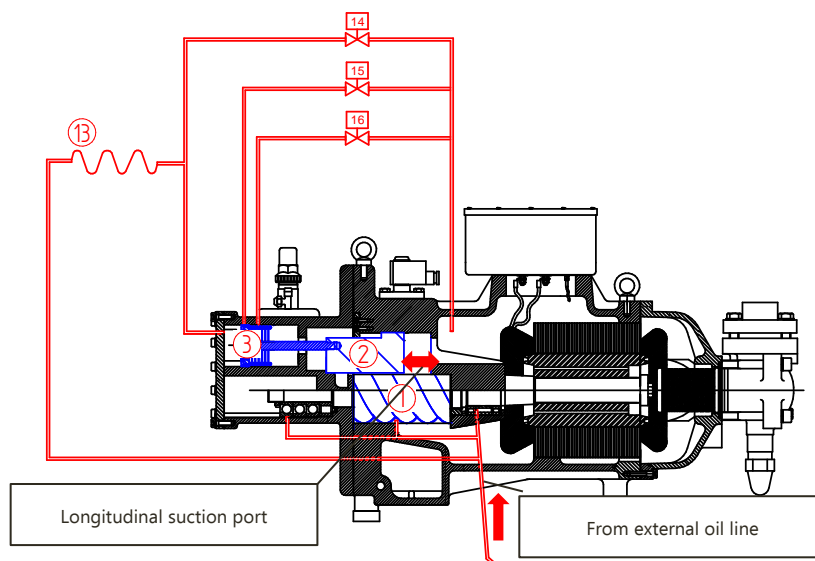

Fig. 12: step capacity control oil circuit
The cylindrical chambers that house the screw rotors are fitted with a longitudinal port, whose connection with the suction side is regulated by the position of the slide valve (17), see Fig. 12.
In the configuration with 4 steps the slide valve automatically returns to the position of minimum capacity after the compressor stops. In fact, due to the pressure difference the oil can flow out of the cylinder to the crankcase through the pipe marked by number 20, see Fig. 12. Therefore the compressor can start again at the minimum capacity.